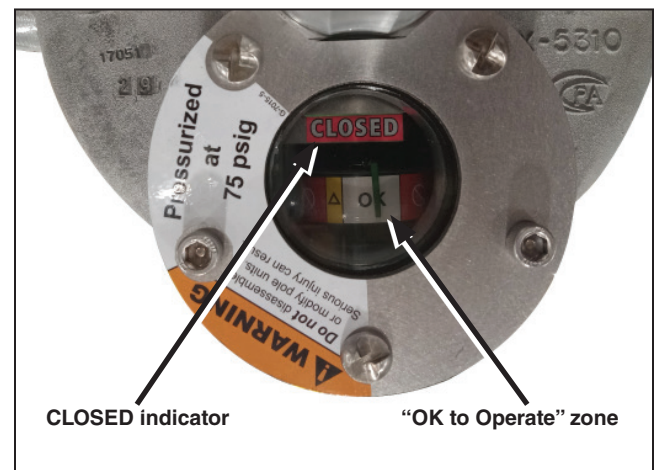

Figure 17. The interrupter in the Closed and Charged position. The interrupter should show “CLOSED.” The gauge needle should be in the white OK to Operate zone.
- STEP 1.** Verify each interrupter indicator shows “CLOSED” and the gas-pressure gauge is in the OK to Operate zone. See Figure 17.